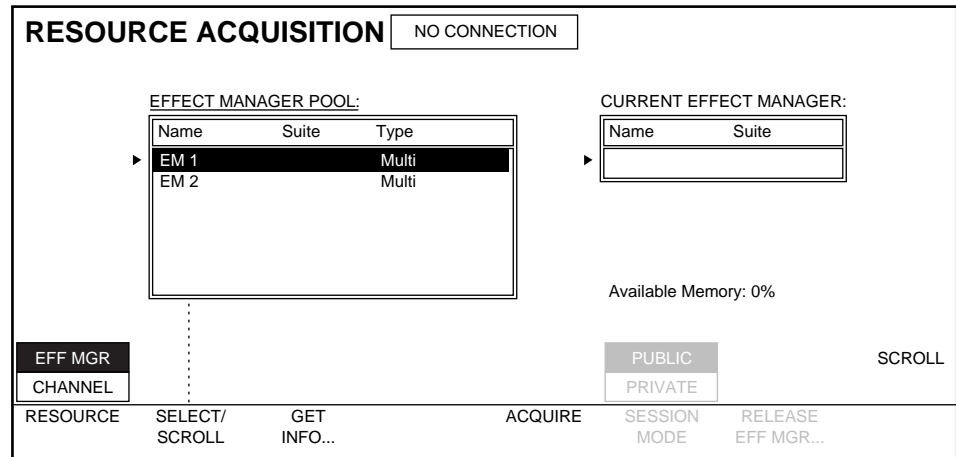

Figure 3-6. Resource Acquisition Menu, Effect Manager Not Acquired
- After a Krystal Control Panel connected to Krystal network initializes, the Resource Acquisition menu will be displayed (Figure 3-6). You use this menu to acquire an Effect Manager and Channel(s). If a different menu has been selected since the Panel initialized, you can reach the Resource Acquisition menu by pressing System Setup \ RESOURCE >.